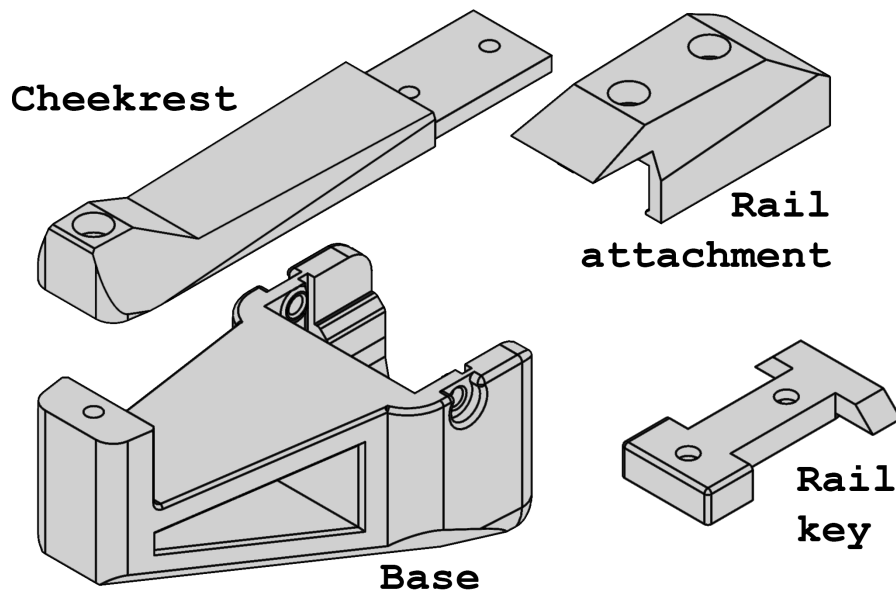

Figure 1: Cheekrest components
4. Slide the cheekrest base (Figure 1: **Base**) upwards. The sling studs will slide into vertical cutouts in the cheekrest base.
6. Insert the rail alignment key (Figure 1: **Rail key**) into the void previously occupied by the rear sight assembly.
7. Lock the charging handle to the rear and keep it extended. Slide the rail attachment (Figure 1: **Rail attachment**) onto the top picatinny rail until it is flush with the back of the rail alignment key. The two screwholes should be aligned between the rail key and rail attachment.
8. Slide the cheekrest top rail (Figure 1: **Cheekrest**) rearwards into the slot between the rail attachment and rail key. The screwhole at the back of the cheekrest top rail should be aligned with the screwhole at the back of the cheekrest base.